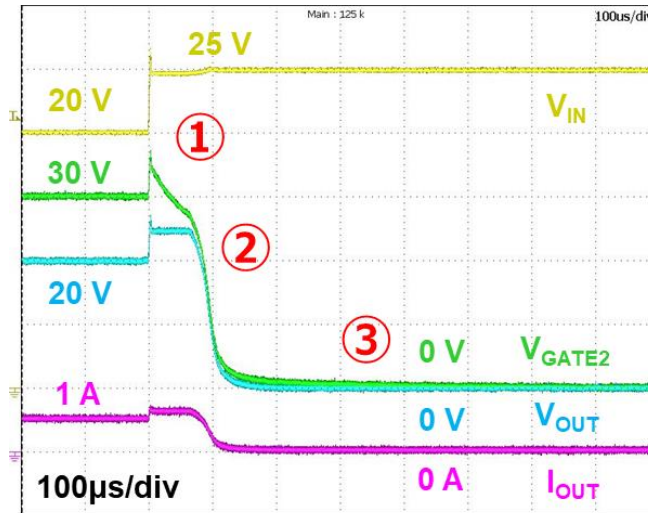

Fig 7.6 Over voltage lockout operation (TCK421G, VGATE2)
Fig 7.6 is the over voltage lockout operation of VGATE2 terminal. Increasing  $V_{IN}$  will also raise  $V_{GATE2}$  and  $V_{OUT}$  (①). When  $V_{IN}$  exceeds  $V_{IN\_OVLO}$  of TCK421G, the over voltage lockout function is activated and shuts down  $V_{GATE2}$  and  $V_{OUT}$  (②). When  $V_{GATE2}-V_{OUT}$  falls the gate threshold voltage  $V_{th}$  of the external MOSFET,  $V_{OUT}$  and  $I_{OUT}$  are turned off completely (③).